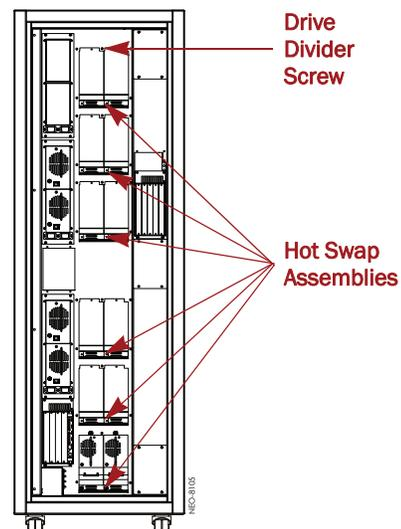

Figure 1. Locations of the Hot Swap Assemblies
3. Locate the Hot Swap **assembly** being replaced (Figure 1).